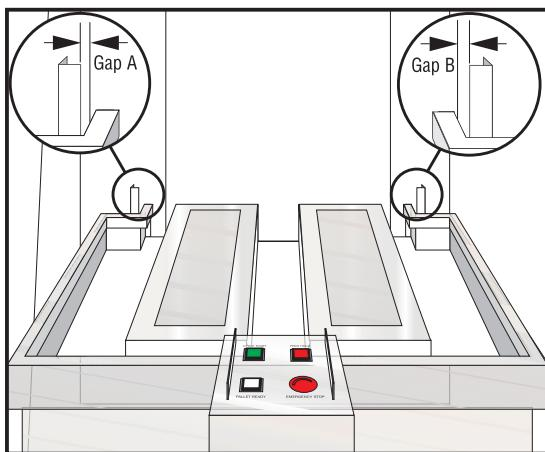
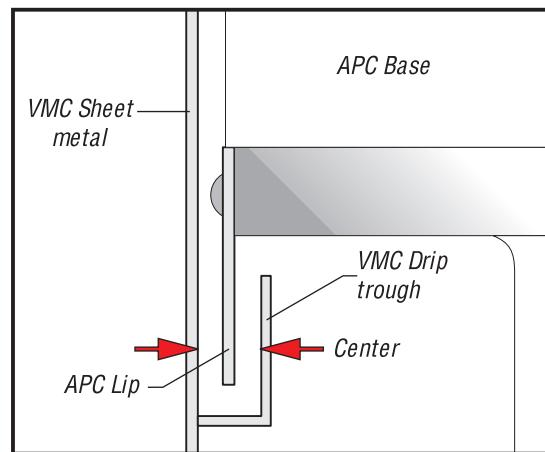

Figure 3.4 Gaps A and B should be equal.
Figure 3.5 The APC lip should be centered in the VMC drip trough.
8. Raise the APC with the forklift and install the leveling screws into the legs. As a preliminary height setting, turn the screws until the length of screw extending above the APC leg is the same as the length of VMC leveling screw extending above the VMC base. Set the leveling pads (3) in place.
9. Set the APC in place on the leveling pads, so that it is centered in the VMC door opening (see Figure 3.4). Ensure that the lip of the APC enclosure is centered in the VMC drip trough (see Figure 3.5).